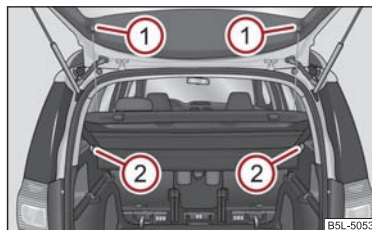

Fig. 74 Removing the luggage compartment cover
- Unhook the support straps ① ⇒ fig. 74.
- Pull the luggage compartment cover out of the holders ② to the rear or press on the bottom side of the luggage compartment cover in the front area. ►
- Install again by pushing the luggage compartment cover forwards into the holder (2) and hanging the support straps (1) on the boot lid.